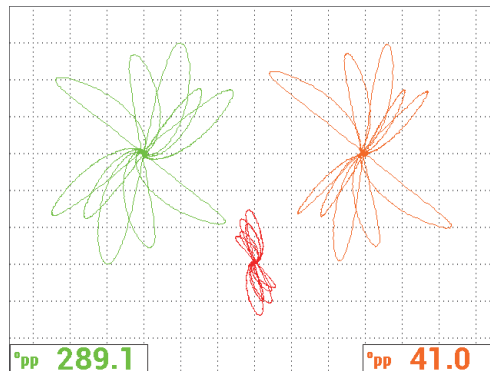

Figure 5-148 The scan of the flat-bottom holes
- Press the FULL NEXT key () to activate the full-screen mode, and then scan the five flat-bottom holes. The signal should resemble the image shown in Figure 5-148 on page 230. The list of all parameters is shown in Figure 5-149 on page 231.